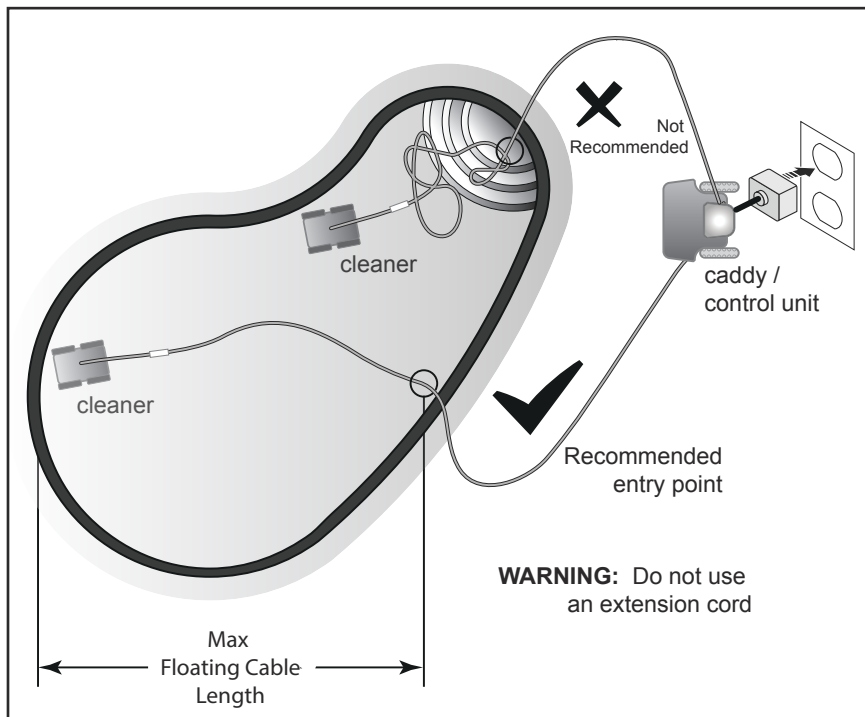

Figure 14. Pool Entry Point for Optimal Patterning
4. Place only enough floating cable in the water to reach the farthest end of your pool from the central point. Spread out the floating cable ensuring there are no kinks or coils in the cable (Figure 14).
**NOTE:** For optimal patterning and reduced tangling, the floating cable should enter the water near the middle of the pool length. Only place enough cable in the water to reach the farthest point in the pool (see Figure 14).